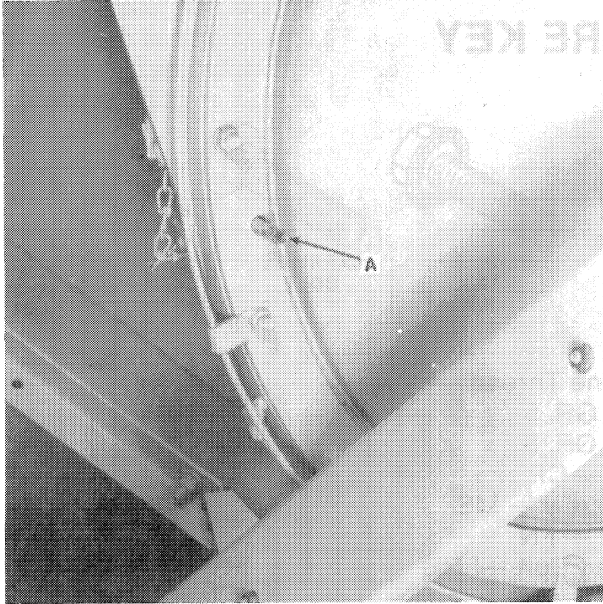
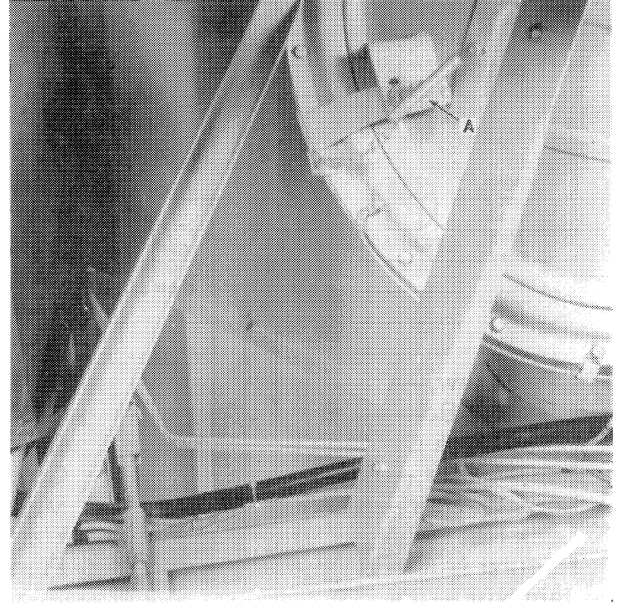

FIGURE 0-2
FIGURE 0-3
16. WHEN THE UNLOADING AUGER IS IN ITS OPERATING POSITION, INSTALL THE CYLINDER STOP, A, FIGURE 0-2, OR A, FIGURE 0-3, BEFORE WORKING ON OR SERVICING THE COMBINE.